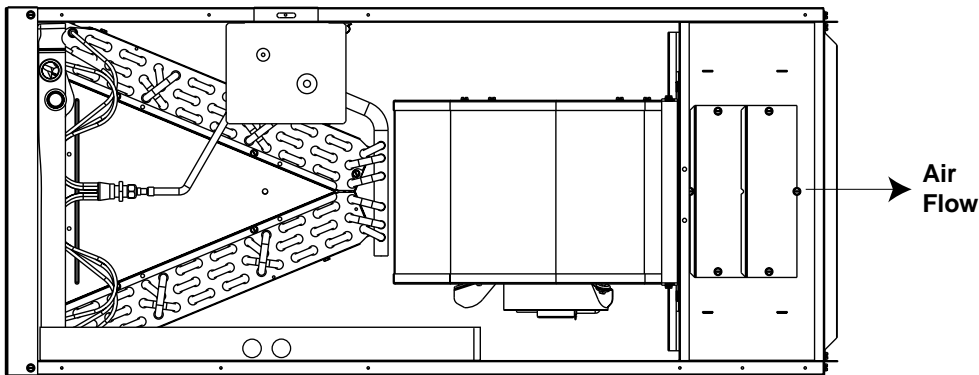

Figure 1a.
i.e. For horizontal right configurations the C3 coil WILL NOT be in a counterflow position. (See Figure 1a.)